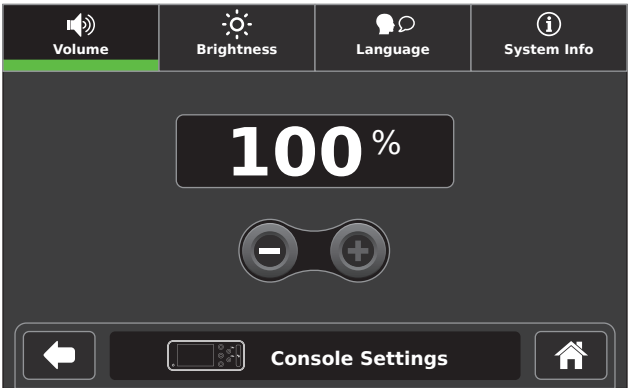

Figure 13 – Console Settings Screen
- 2. Touch the applicable menu tab to manage console settings as necessary (Figure 13):